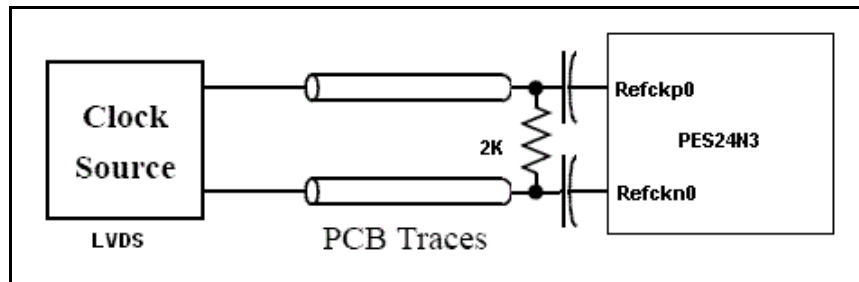

Figure 5 LVDS Clock Source Circuit Implementation
- For an LVDS clock source, a 2K common mode resistor must be included between the clk\_p and clk\_n signals in front of the decoupling capacitors. See Figure 5.